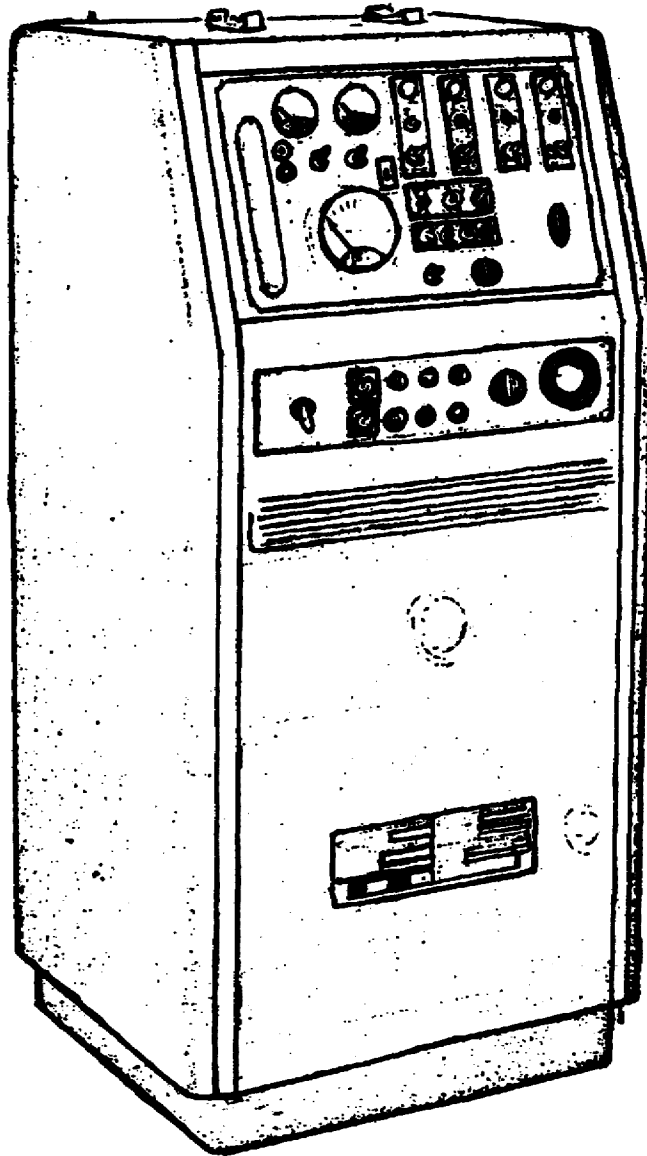

Figure 10. Model HT-1 heater test set.
a. Several models of personnel and engine heaters can be performance tested using the heater test set (FSN 4910-671-6613). The test set (fig 10) may be operated from a 120-volt, 60-Hz, single-phase, AC power source or from a storage battery power source. The test set is equipped with complete controls and accessories for operating the heater under test. The test set incorporates a cradle for mounting the heater being tested. Fuel tank, fuel filter, and electric fuel pump supply fuel to the heater. A voltmeter and ammeter measure the current and voltage being supplied to the heater. An air pressure gage measures the combustion and ventilating air blower output. A fuel flowmeter determines the rate of fuel flow through the heater fuel control valve.